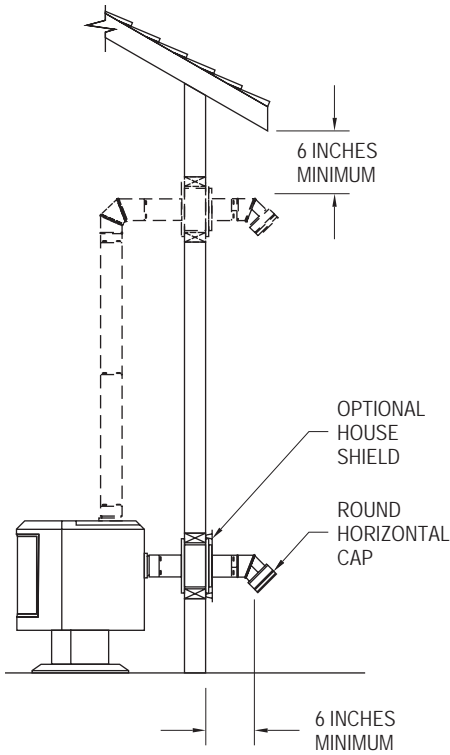

Figure 6
5. If the flue exit is on back of the stove, and a horizontal through-the-wall installation is desired (**Figure 6**):
- B. Connect the Appliance Adapter to back of stove and attach sufficient pipe to penetrate Wall Thimble and extend at least 6" beyond the exterior wall. You may install the optional House Shield as shown in **Figure 6**. The House Shield is used to protect the exterior wall from vent discharge. Attach a Round Horizontal Cap. The Round Horizontal Cap can be swiveled to be directed away from nearby objects (fence, plants, etc.), but must still be pointing in a generally downward direction.